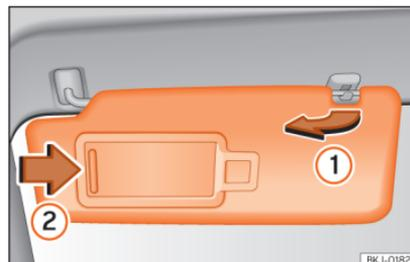

Fig. 117 Sun visor on the driver side.
- The sun visor can be pulled out of its mounting and turned towards the door »» **Fig. 117 ①**.